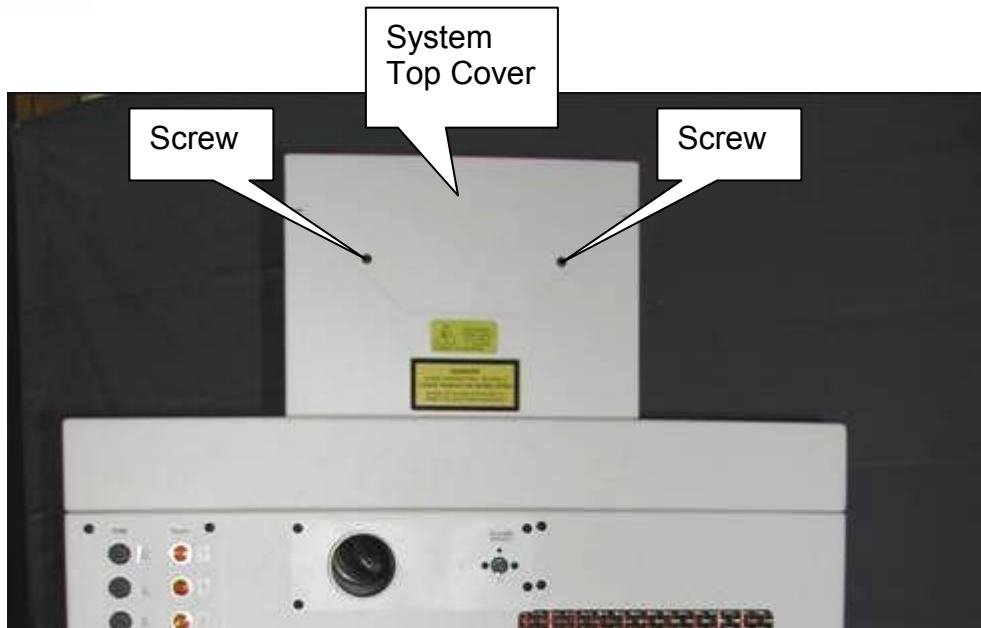

Figure 1
21. Fill the DI Water Bottle to the minimum level line thru the Fill Hole (Figure 1)
3. **The system must be "Off" for at least five (5) minutes before servicing.**
4. Remove the two screws shown in **(Figure 1)** and carefully lift the Top Cover from the rear and slide it back about  $\frac{1}{2}$  inch and lift up and remove. (Note: Disconnect the ground wire and place the cover in a safe place.)